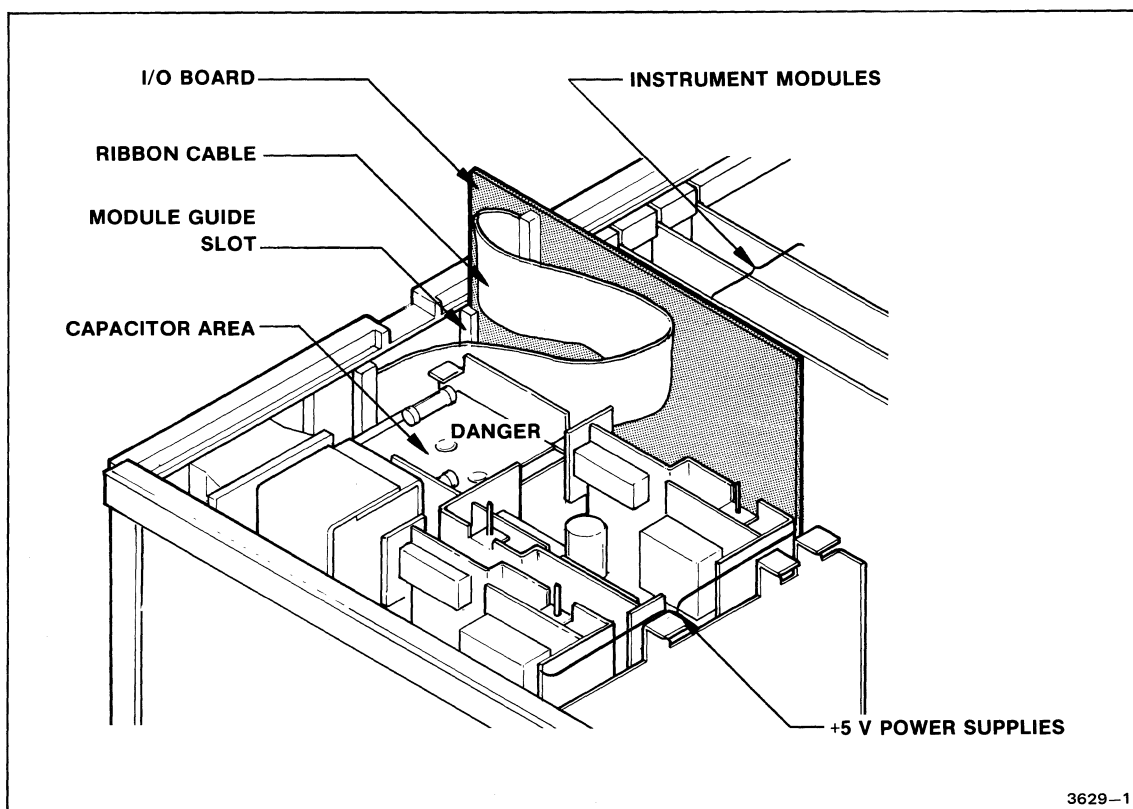

Figure 6-4. Installing the I/O Communication Interface board.
The Option 06 I/O Communication Interface consists of a plug-in circuit board (the I/O Interface Communication Interface board) for insertion into slot 8; and a back panel insert (the I/O Connection panel) with appropriate connectors and plugs. Refer to Figure 6-4.
8. Position the ribbon cable as shown in Figure 6-4.